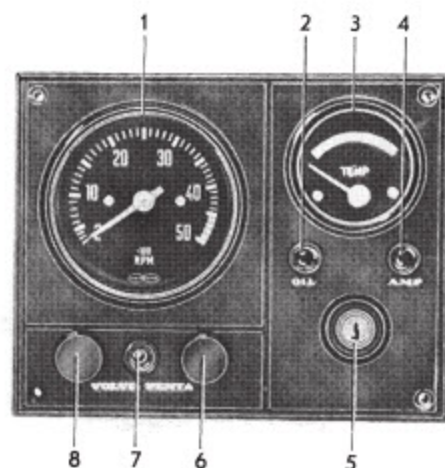

Fig. 6. Instrument panel
4. Turn the starting key to position 3, and check that the control lamp, Fig. 6, lights up. Keep the key in this position 40—60 seconds so that the glow plugs are pre-heated (the time varies with the engine temperature).